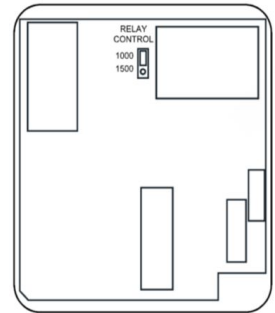

fig 15
- To turn the VN-MHE1 unit/s ON when the CO2 level rises over the pre set threshold of 1000 ppm or 1500 ppm, the threshold can be set via the "Dip Switch" located within the CO2 sensor, (fig 15).